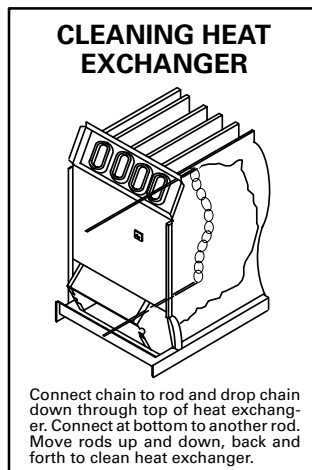

FIGURE 18
- 8 – Insert a 2 ft. steel rod with a 20 in. length of chain attached to one end into top opening of heat exchanger. Refer to figure 18.